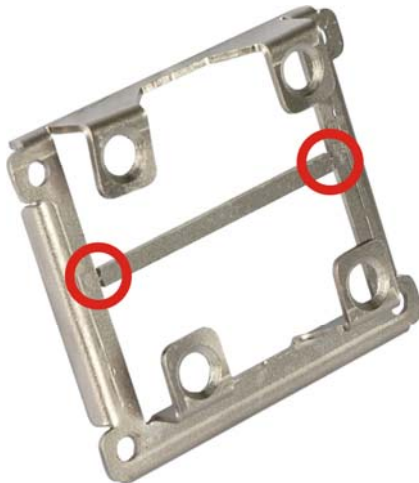

Figure 3-10: Remove the Temporary Retaining Bracket
Step 5: Remove the temporary retaining bracket (**Figure 3-10**).